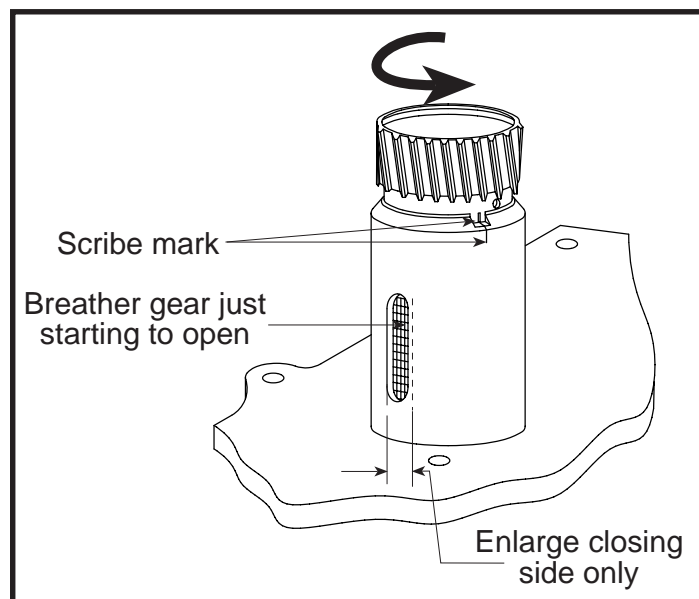

Figure 6
- A. Before installing oil pump, turn pump gear counterclockwise until sleeve hole in gear aligns with slot in pump body. Place .002" shim in opening and reverse gear until tight. Scribe mark across pump gear sleeve and pump body at small timing notch on top edge of body. **See Figure 6.**